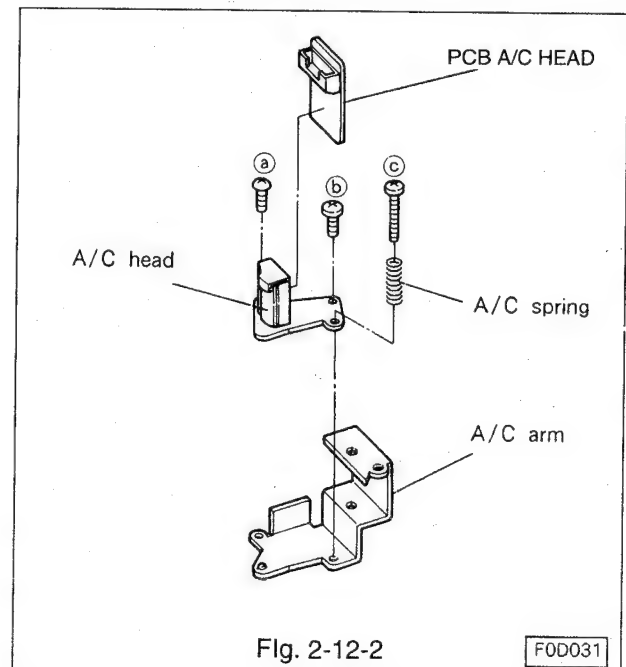

Fig. 2-12-2
- Remove three A/C head fastening screws (a ~ c) and the A/C spring shown in Fig. 2-12-2, and remove the A/C head from the A/C arm.
- Unsolder the PCB A/C HEAD from the A/C head. (Refer to Fig. 2-12-2.)
- Solder the PCB A/C HEAD to the A/C head. (Refer to Fig. 2-12-2.)